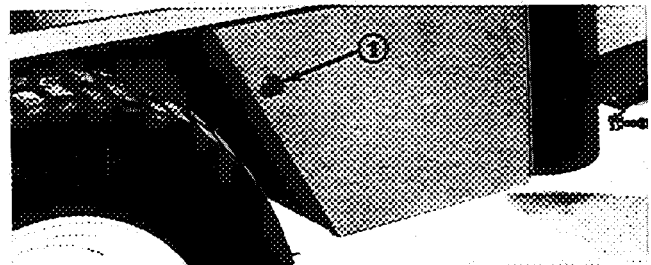

Figure 6
1. Loosen capscrew securing battery cover and open cover (Fig. 6).